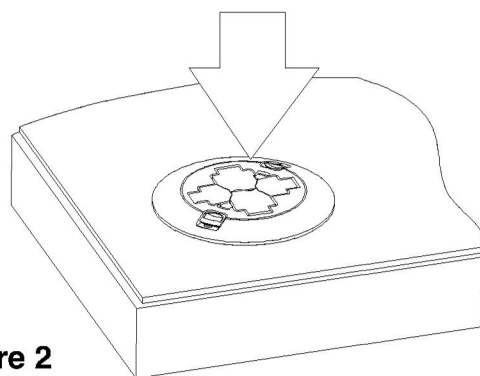

Figure 2
5. Close all lids and push down on top of cover to fully seat cover to floor. Step on cover to push poke-through firmly against floor. Clean excess sealant from around cover edge (see Figure 2).